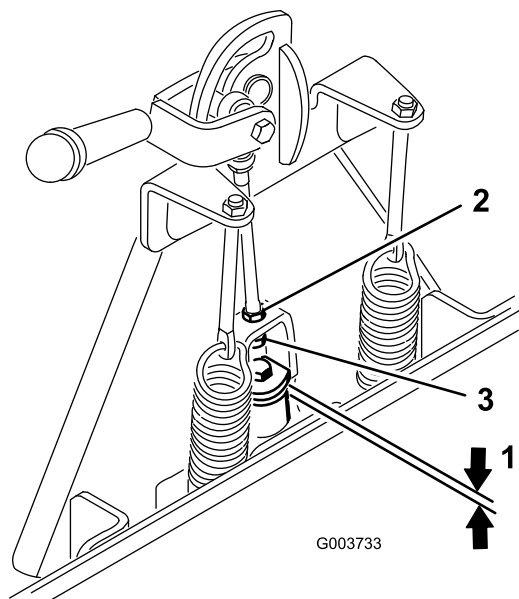

Figure 2
2. Measure the gap between the top washer and the spacer in the link assembly on the attachment adapter as shown in Figure 2.